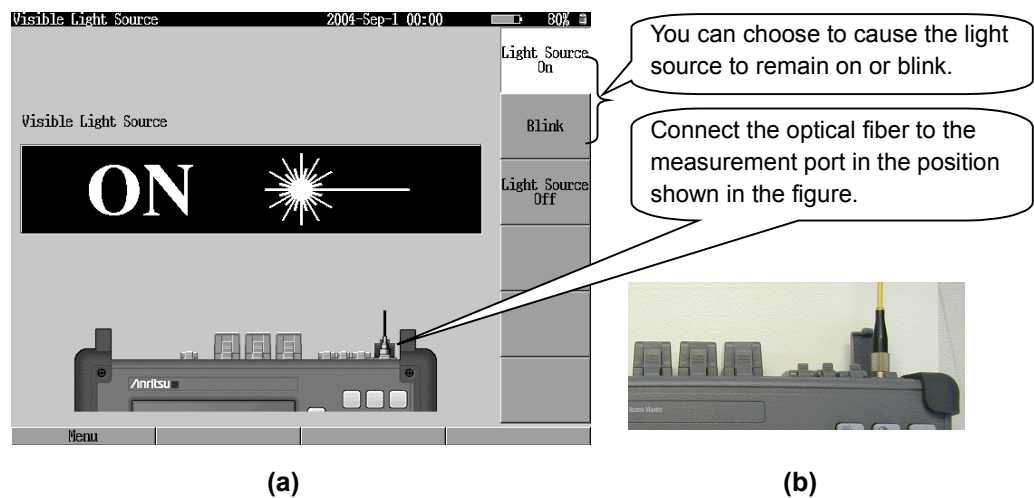

Fig. 1.2.10-1 Visible Light Source screen and measurement port
1. The equipped position of the visible light port varies depending on the hardware version of the MT9080 Series (Fig. 1.2.10-1 shows the ports for the unit with the hardware version 2 or later). Refer to Section 8.4 “Self Test Function” for checking the hardware version.